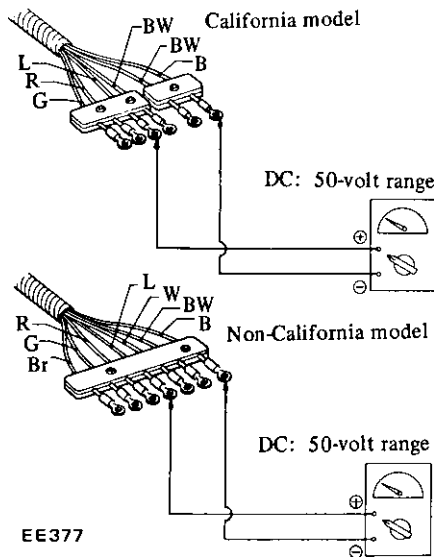

Fig. EE-76 Checking primary circuit
3. Connect a circuit tester or an oscilloscope as shown in Figure EE-76.